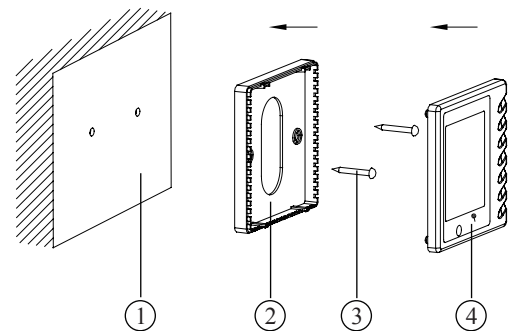

Fig.24 Schematic
- ◆ Both Cable of direct installation and the concealed one, please drill two horizontal hole on the wall and insert two wooden plug. Then fix the soleplate on the wall and insert the signal wire pin into the plug as showed in Figure 24, finally fix the controller to the wall..